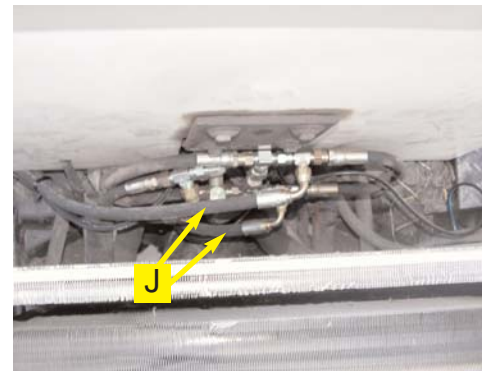

Figure 6a. Installed steering output hoses.
- a. Install the provided steering output hoses (**J**) between the run tees installed in step 5 and the **A** and **B** ports of Automated Steering Block. (Figure 6a.)